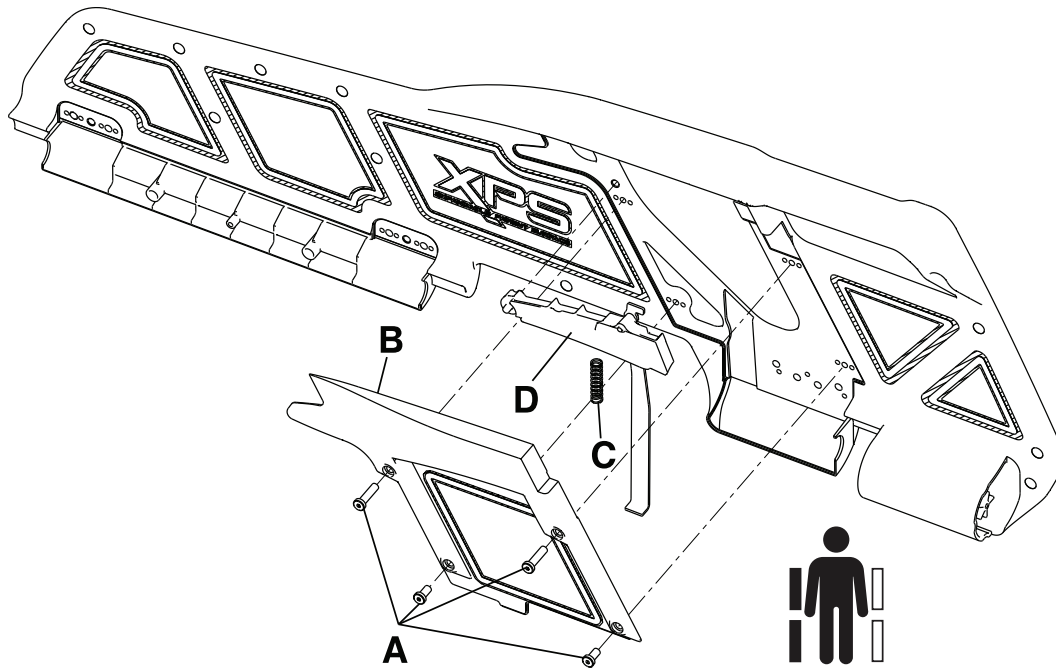

Figure 27: Release / Spring handle assembly replacement (XPS)
- Using a 3/32" hex wrench, remove the four screws (A) that secure the release cover (B) to the overmold assembly to remove the release cover (Figure 27 on page 60).
- Using a small slotted screwdriver, pry the release handle return spring (C) up to remove the spring (Figure 27 on page 60).
5. Grasp the release handle assembly (D), and hinge it upward on the spring side to remove it from the cover (Figure 27 on page 59).
3. Using a 3/32" hex wrench, remove the four screws (A) that secure the release cover (B) to the overmold assembly to remove the release cover (Figure 27 on page 60).
4. Using a small slotted screwdriver, pry the release handle return spring (C) up to remove the spring (Figure 27 on page 60).